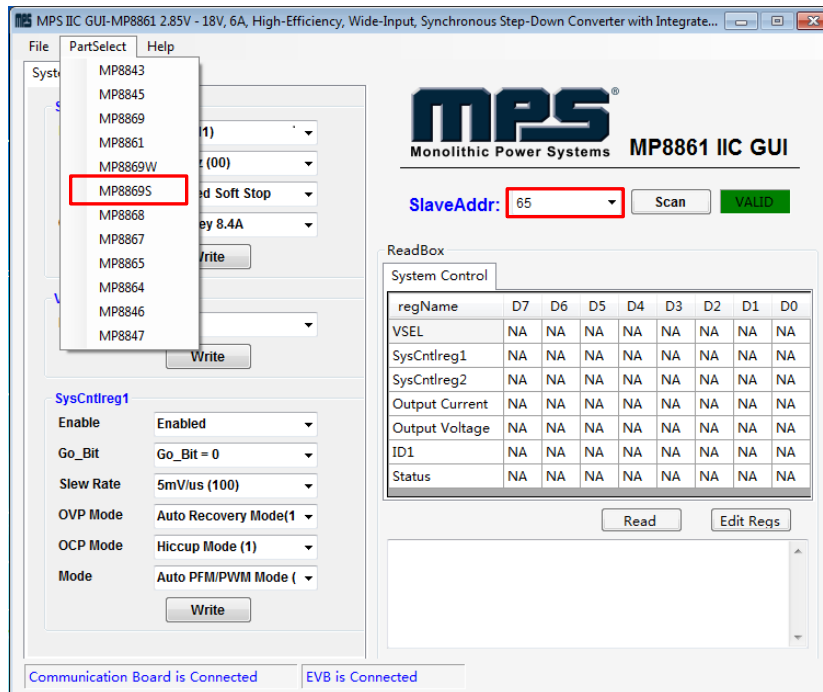
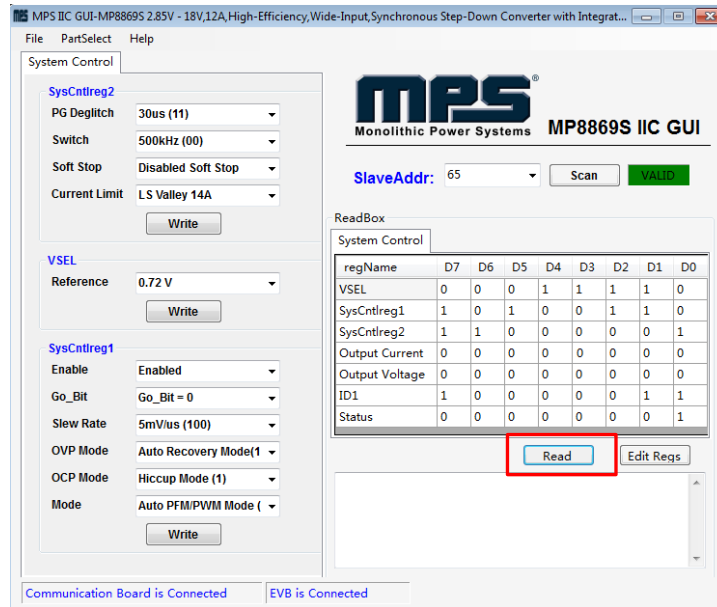

Figure 7: Appearance of Address Shows Successful Connection
Figure 9: Values from I2C Shown in Table
- If the connection is successful, the address will be listed in the “Slave Address” (see Figure 7).
- Click the **PartSelect** button to select the MP8869S (see Figure 7) (The default GUI window is for the MP8861). The Register Control menu will appear on the left side. I2C register values will be read and displayed on the right side after clicking the **Read** button (see Figure 9).